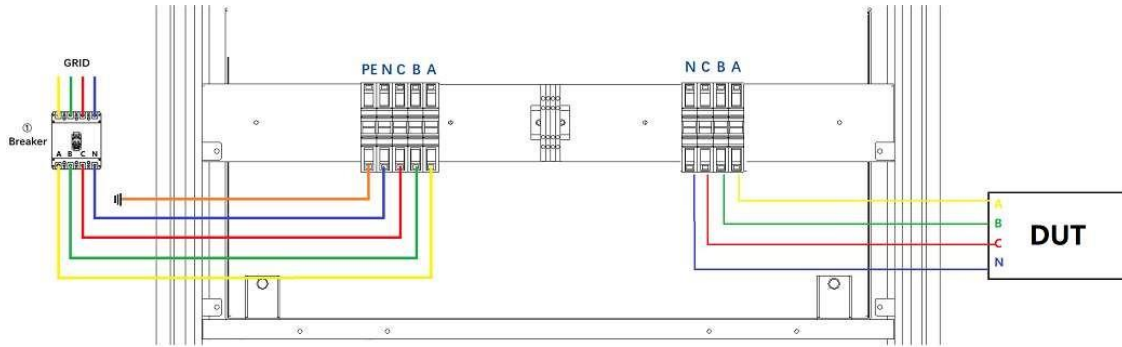

Figure 3-11 (Default AC output)
Step 4: Power off circuit breaker of the AC input side (Figure 3-11①).